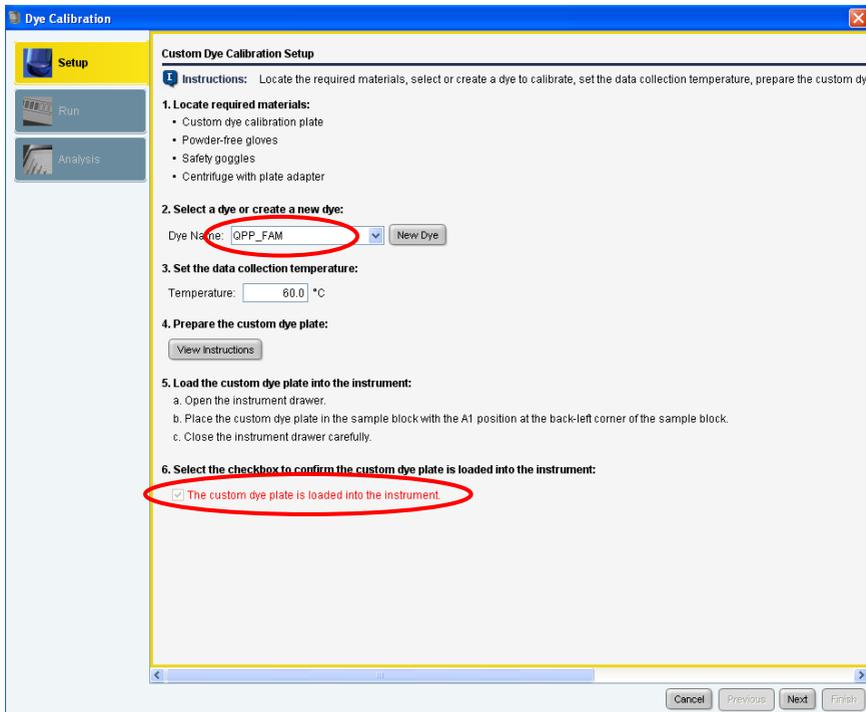

Figure 7. Selecting a dye from the drop down menu in the Custom Dye Calibration Setup.
8. Select **QPP_FAM** in the **Custom Dye Calibration Setup** window. Load the QPP_FAM plate prepared in Procedure A into the instrument. Confirm by checking the box for **The custom dye plate is loaded into the instrument** (Figure 7).